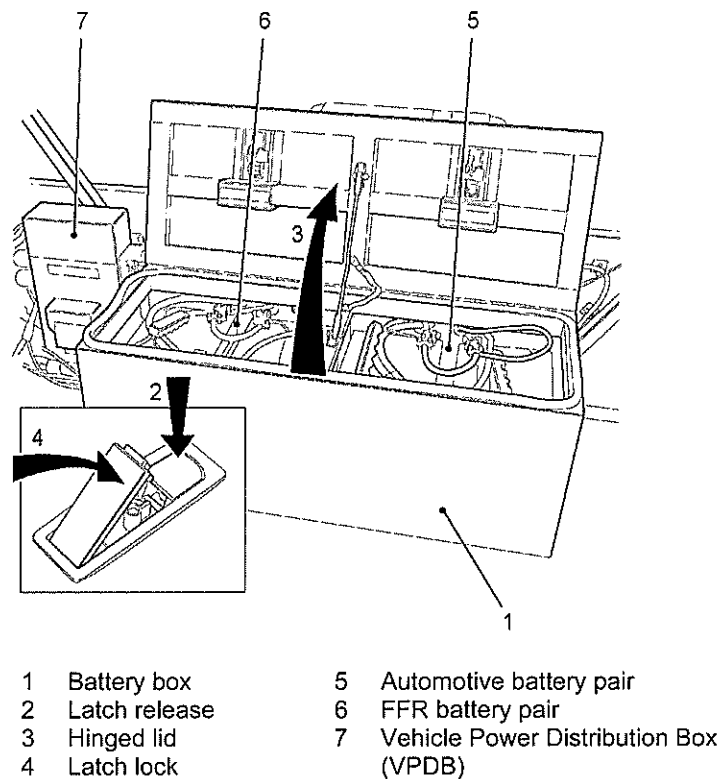

Fig 4 Battery box
- (1) **DAMAGE TO ELECTRICAL SYSTEM.** Never disconnect the vehicle batteries whilst the engine is running.
- (2) **DAMAGE TO ELECTRICAL SYSTEM.** Prior to carrying out any welding on the vehicle, isolate vehicle electrics at the battery main switch, disconnect batteries and alternator and remove Vehicle Power Distribution Box.
- (3) **DAMAGE TO ELECTRICAL SYSTEM.** Disconnect the batteries prior to boost charging.
13 The battery box is located at the forward end of the rear compartment (see Fig 4 (1)). Two pairs of 12V 85 Ah Absorbed Glass Mat (AGM), maintenance free, sealed for life, lead acid batteries supply the 12/24V dc automotive electrical system and 24V dc FFR circuit. Automotive batteries (5) are located on the RH side of the battery box. FFR batteries (6) are located on the LH side.
14 Push each of the latches down (see Fig 4 (2)) to unlock, raise the lid (3) and gain access to the batteries. Lock the lid by pressing closed the latches (4) upon closing the battery box lid.